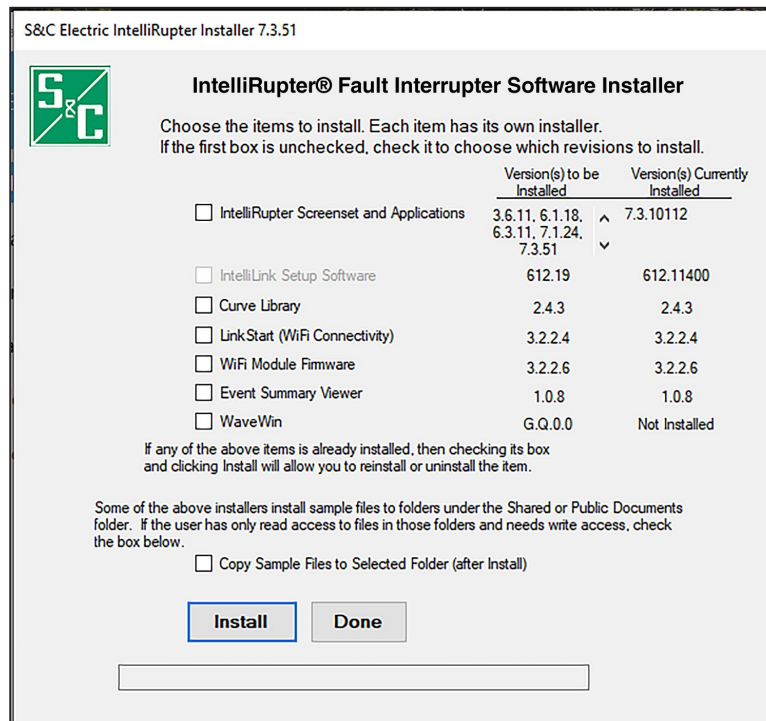

Figure 3. The IntelliRupter fault interrupter *Software Installer* screen.
- STEP 2.** The *IntelliRupter Software Installer* screen will appear, as shown in Figure 3.